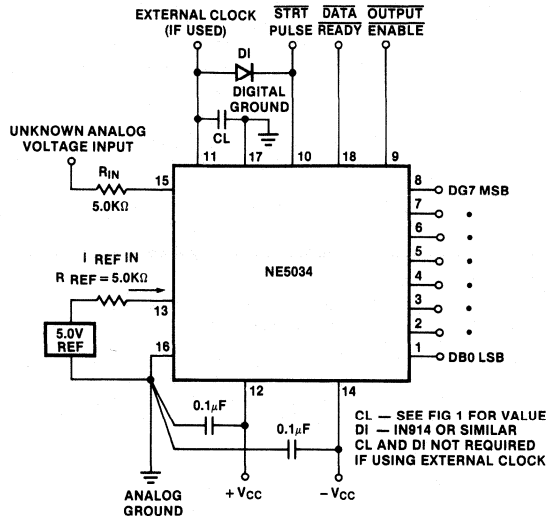

FIGURE 4.
An external capacitor between this pin and ground generates the internal clock pulses. (See diagram for clock frequency vs capacitor value). In order to synchronize the internal clock, to the start pulse a diode (small signal type e.g., 1N914) should be connected between STRT and CLK IN (see Figures 4 and 5). Without this diode the start pulse could occur at a time which could cause one of the conditions described in the Note on "set up" time. Applying an external TTL-or MOS-compatible clock to this pin slaves the NE5034 to external clock frequency. In this case, the diode is not required but the "set up" time requirements should be noted.
- Adjust the voltage applied to $V_{REF IN}$ (Figure 4) until the LSB varies between '0' and '1', and all other data outputs stay '1' after each conversion.
A standard connection for a 0 to 10V unipolar binary operation, with $V_{REF IN}$ equal to +5 volts, is shown in Figure 4. The NE5034 can quantize full scale ranges of 1V to 10V. It should be noted, however, that for smaller full scale ranges, the accuracy and speed will degrade.